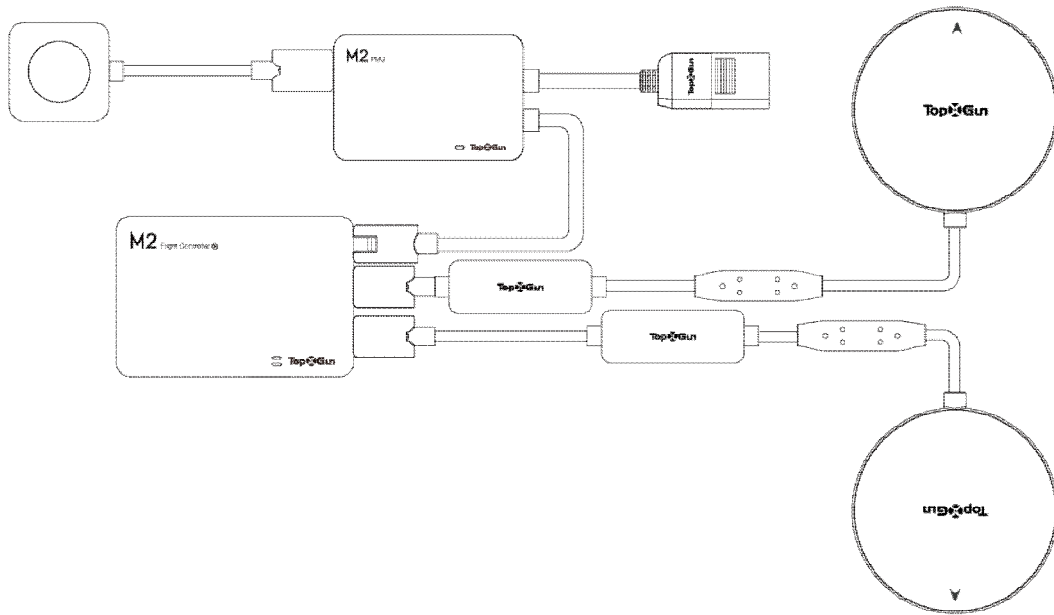

Figure 2-2 Connection diagram of the main control circuit
Step 2: According to Figure 2-2, install the main controller and connect the line according to the requirements of “Installation Connection Instructions”.